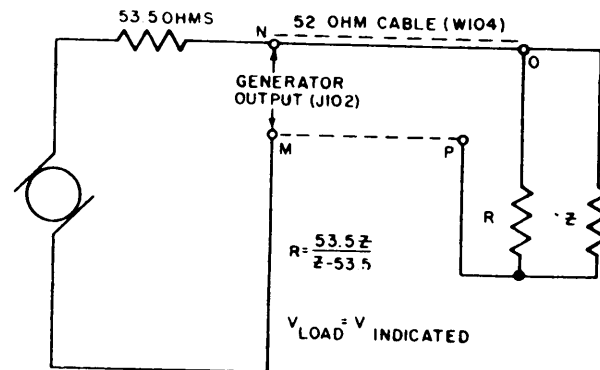

Figure 2-14. Equivalent Circuit of X MULT RF OUTPUT (J-102) with Shunt Resistor Added.
h. If the load impedance is considerably less than 500 ohms, but more than 53.5 ohms, the impedance adapter is replaced by a non-inductive composition resistor which shunts the load (see figure 2-14). The equivalent impedance of the shunt and load should equal the generator impedance (53.5 ohms). The receiver input voltage will then be equal to the meter indication. For example; if the receiver input impedance (Z) is 120 ohms, select the correct shunt resistor (R) as follows: